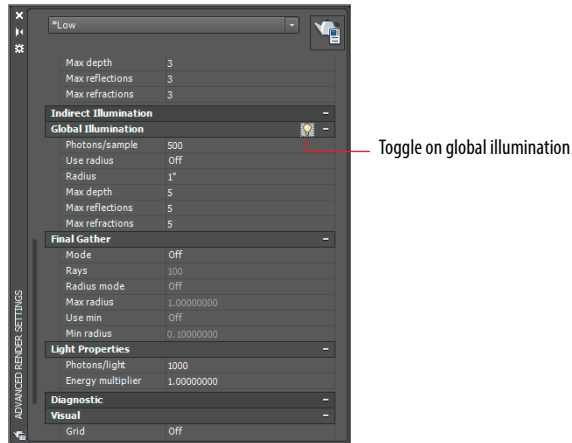

FIGURE 18.16 Toggling on global illumination (Windows only)
- If you're a Windows user, click the small icon at the right edge of the Render panel (or type **RPREF** and press Enter) to open the Advanced Render Settings palette. Scroll down in the palette, and toggle on Global Illumination by clicking the lightbulb icon shown in Figure 18.16. Mac users cannot adjust any advanced render settings.